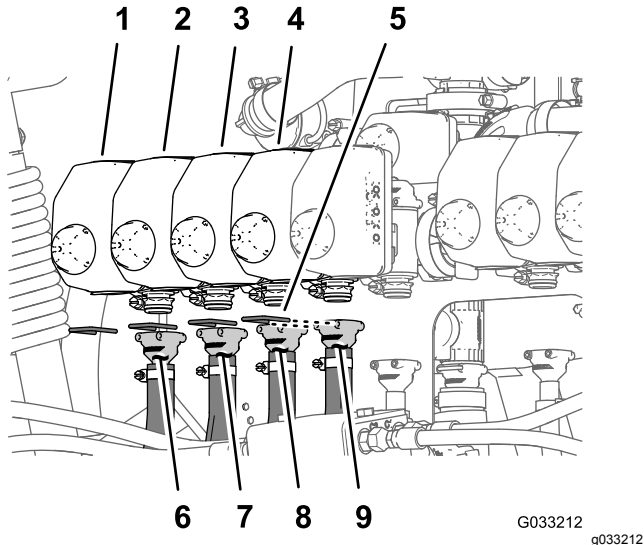
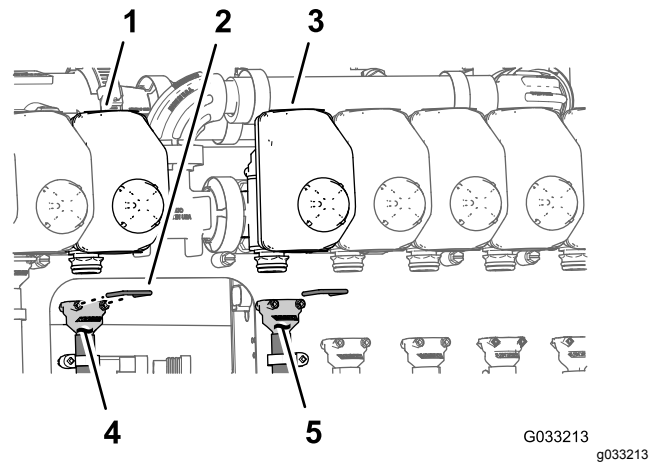
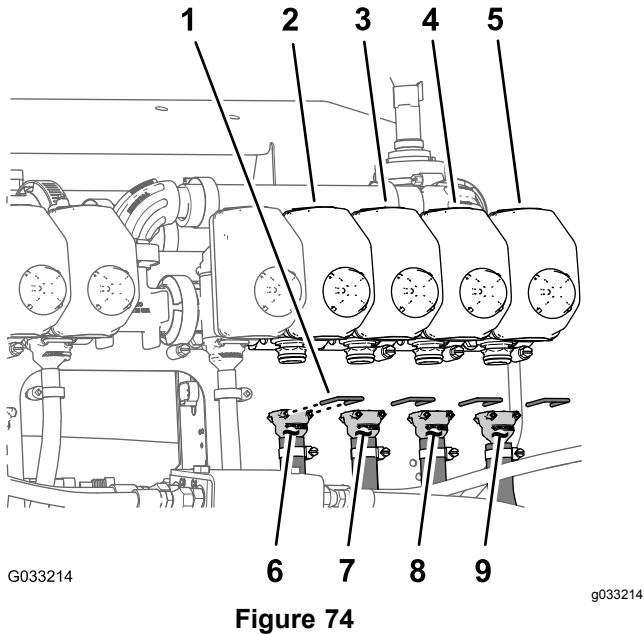

Figure 72
Figure 73
Figure 74
Note: Refer to Figure 72 in *Assembling the Hoses to Nozzle Valves 1 through 4* (page 35), Figure 73 in *Assembling the Hoses to Nozzle Valves 5 and 6* (page 35), and Figure 74 in *Assembling the Hoses to Nozzle Valves 7 through 10* (page 36) for the nozzle-valve positions.
1. Assemble the straight barbed fitting of a supply hose 279 cm (110 inches) onto the coupler of nozzle valve 1 (Figure 72).
2. Secure the barbed fitting to the coupler with a retainer (Figure 72).
3. Assemble the straight barbed fitting of a supply hose 234 cm (92 inches) onto the coupler of nozzle valve 2 (Figure 72).
4. Secure the barbed fitting to the coupler with a retainer (Figure 72).
5. Assemble the straight barbed fitting of a supply hose 188 cm (74 inches) onto the coupler of nozzle valve 3 (Figure 72).
6. Secure the barbed fitting to the coupler with a retainer (Figure 72).
7. Assemble the straight barbed fitting of a supply hose 188 cm (74 inches) onto the coupler of nozzle valve 4 (Figure 72).
8. Secure the barbed fitting to the coupler with a retainer (Figure 72).
1. Assemble the straight barbed fitting of a supply hose 81 cm (32 inches) onto the coupler of nozzle valve 5 (Figure 73).
2. Secure the barbed fitting to the coupler with a retainer (Figure 73).
3. Assemble the straight barbed fitting of a supply hose 81 cm (32 inches) onto the coupler of nozzle valve 6 (Figure 73).
4. Secure the barbed fitting to the coupler with a retainer (Figure 73).
1. Assemble the straight barbed fitting of a supply hose 188 cm (74 inches) onto the coupler of nozzle valve 7 (Figure 74).
2. Secure the barbed fitting to the coupler with a retainer (Figure 74).
3. Assemble the straight barbed fitting of a supply hose 188 cm (74 inches) onto the coupler of nozzle valve 8 (Figure 74).
4. Secure the barbed fitting to the coupler with a retainer (Figure 74).
5. Assemble the straight barbed fitting of a supply hose 234 cm (92 inches) onto the coupler of nozzle valve 9 (Figure 74).
6. Secure the barbed fitting to the coupler with a retainer (Figure 74).
7. Assemble the straight barbed fitting of a supply hose 279 cm (110 inches) onto the coupler of nozzle valve 10 (Figure 74).
8. Secure the barbed fitting to the coupler with a retainer (Figure 74).